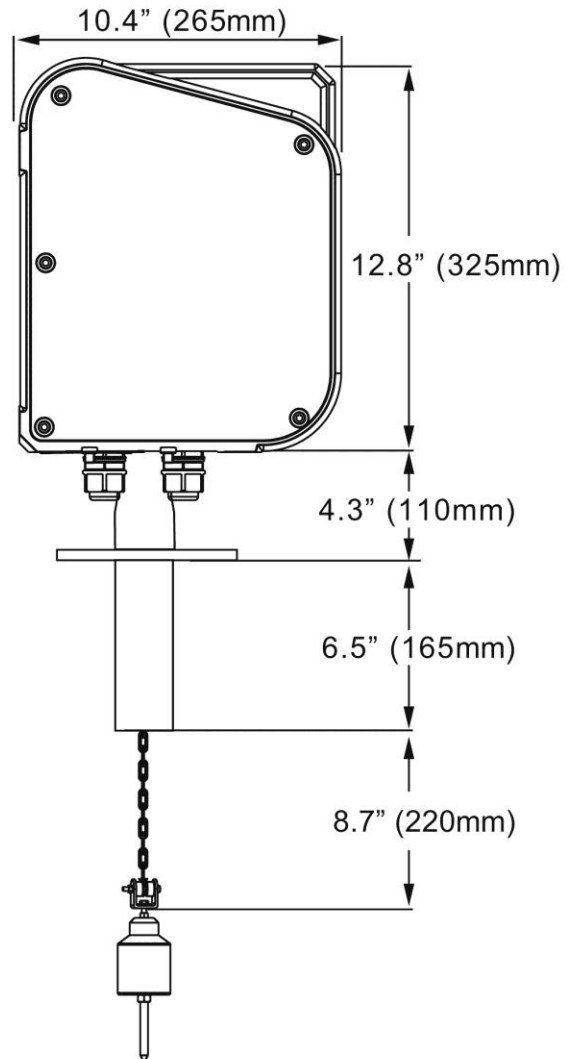

Figure 4
- 100% Full Measuring Point** - The Model WC smart inventory sensor is provided with a built-in deadband of 15.2" (385mm) plus the height of the sensing weight, as shown in Figure 4, including the pipe assembly (6.5" / 165mm) that encloses the cable wiping mechanism and the modifiable stainless steel chain connection between the Nylon jacketed stainless steel cable and the sensing weight (8.7" / 220mm).